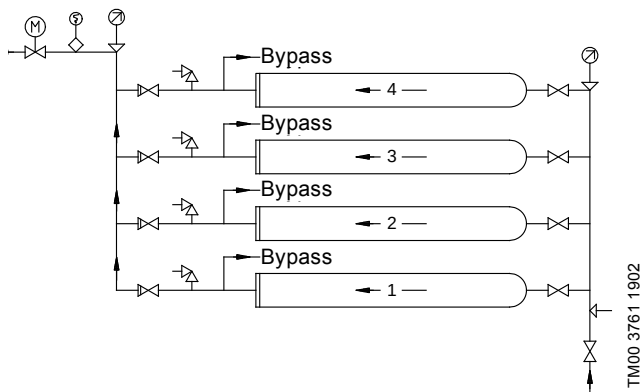

Fig. 7 Booster system with four modules connected in parallel, mounted above each other
Grundfos booster modules are as standard supplied without a built-in non-return valve. However, a non-return valve can be built in on request. See fig. 7.
- For modules connected in parallel, mounted above each other, we recommend to connect the pipes as shown in fig. 7. This layout ensures that the modules are filled with water before starting.